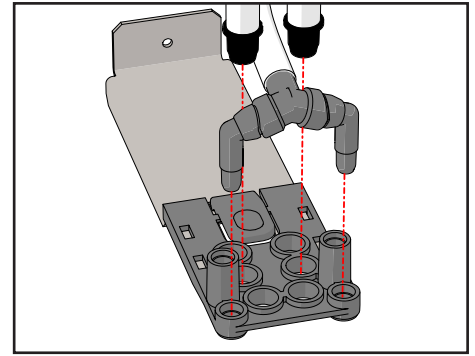

Figure 32.
3. Detach the spout from the arm (see Figure 32)